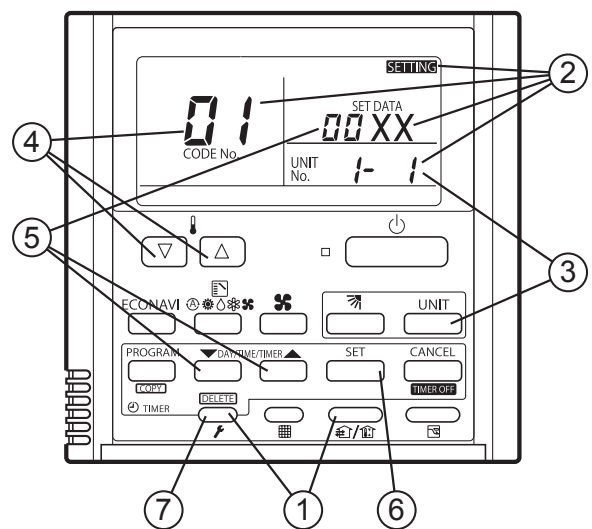

Fig. 7-1
- "**SETTING**", unit No. "**1-1**" (or "**ALL**" in the case of group control), item code "**01**", and settings data "**00XX**" are displayed blinking on the remote controller LCD display (Fig. 7-1). At this time, the indoor unit fan (or all indoor unit fans in the case of group control) begins operating.